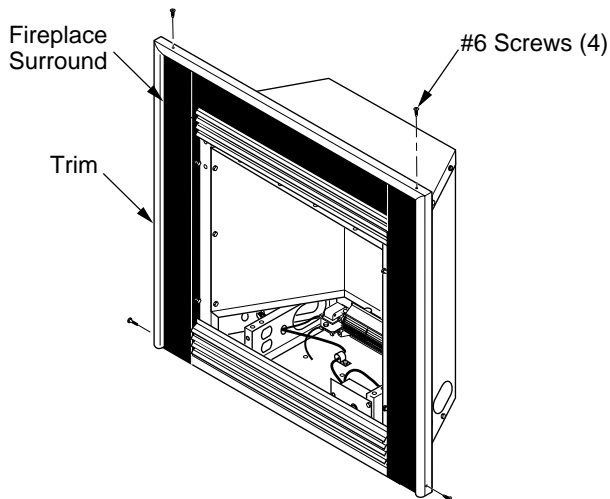

Figure 22 - Attaching Trim to Fireplace Surround
9. Install trim after final finishing and/or painting of wall (see Figure 22, page 14).
- Line up holes in surround trim with holes on side panels of fireplace surround assembly. Attach with screws provided (see Figure 22).